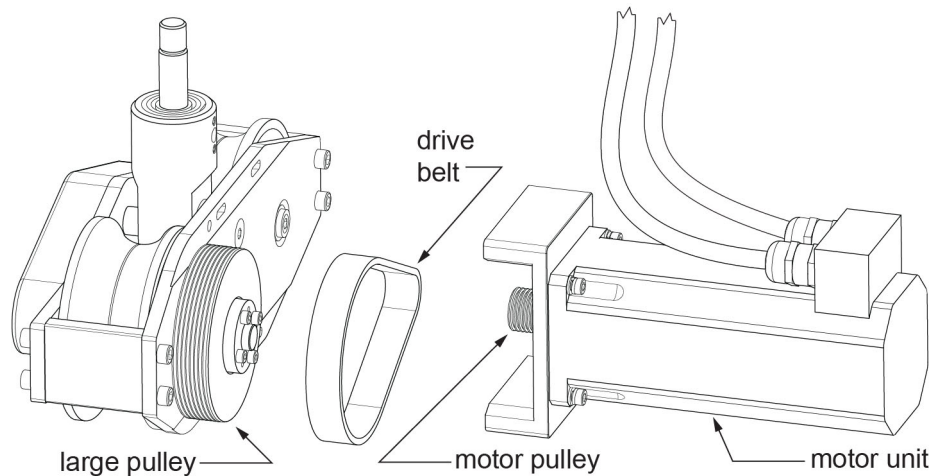

Figure 6 - Detaching the Drive Belt
2. Detach the motor unit and the drive belt. Refer to **Figure 6**.